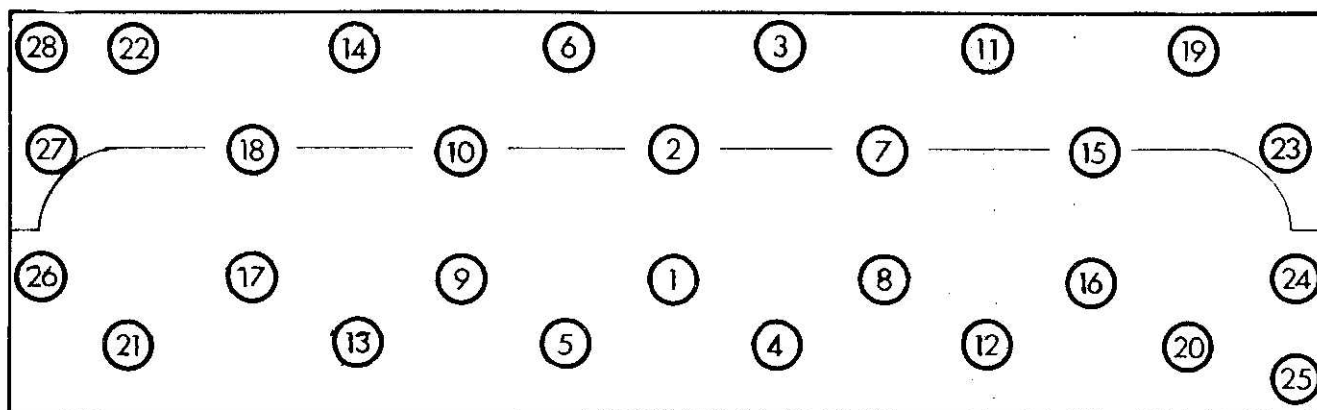

Fig. 13
4. Remove cylinder head securing setscrews in reverse order to tightening sequence (See Fig. 13).
Check that all the push rods are properly located before tightening down the cylinder head securing setscrews to the torque given in 'Data' and in the correct sequence as in Fig. 13.